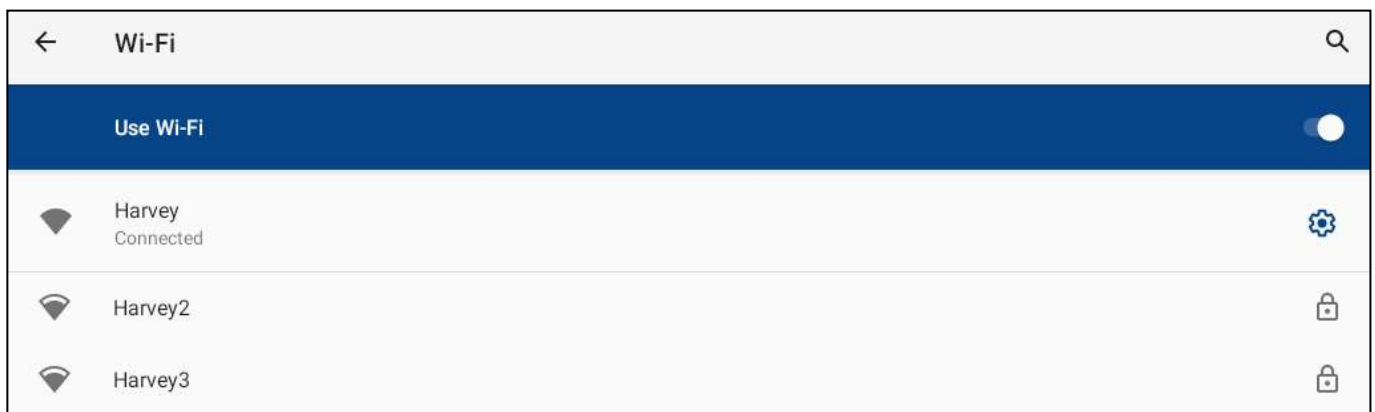

Fig. 12-12
4. Network Connection (Fig. 12-12):